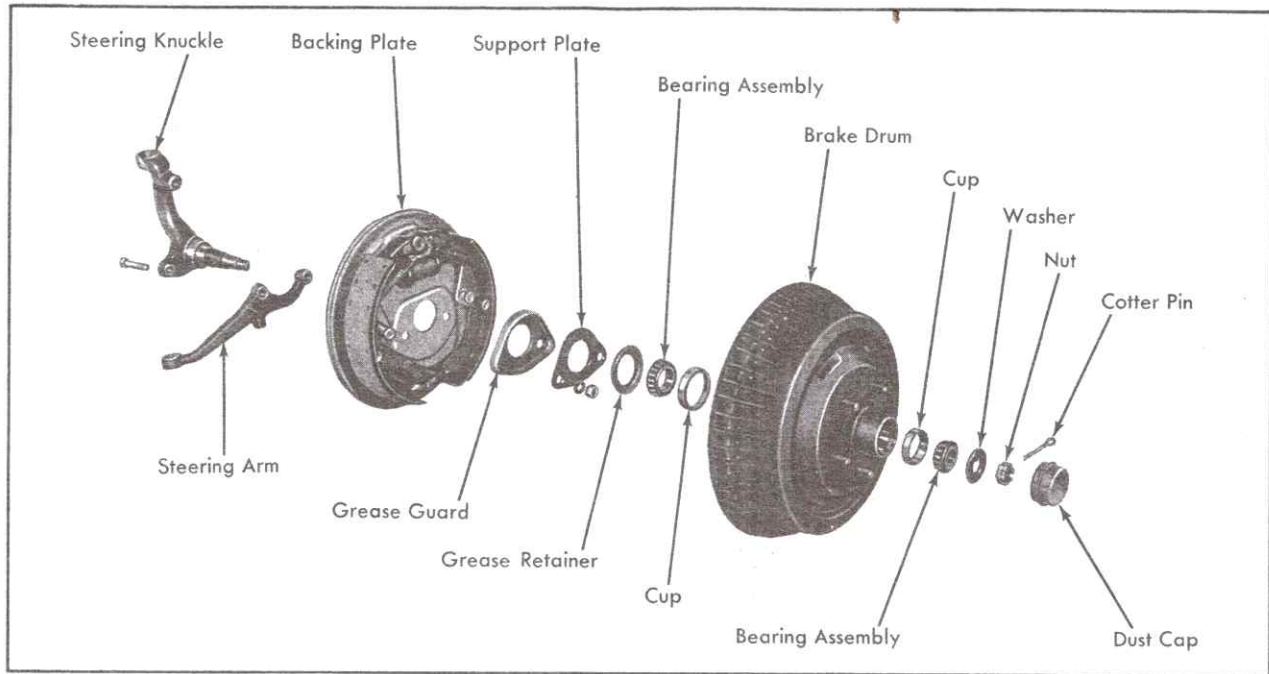

Fig. 3-25 Front Wheel Disassembled
4. Remove support plate, grease guard, and brake backing plate from steering knuckle spindle, Fig. 3-25 and wire backing plate to a convenient location to prevent damage to brake hose.
NOTE: Install bolts with bolt heads against mounting boss of steering knuckle and nuts butting against support plate, Fig. 3-25.
NOTE: Install bolts with bolt heads against mounting boss of steering knuckle, and nuts butting against support plate, Fig. 3-25.